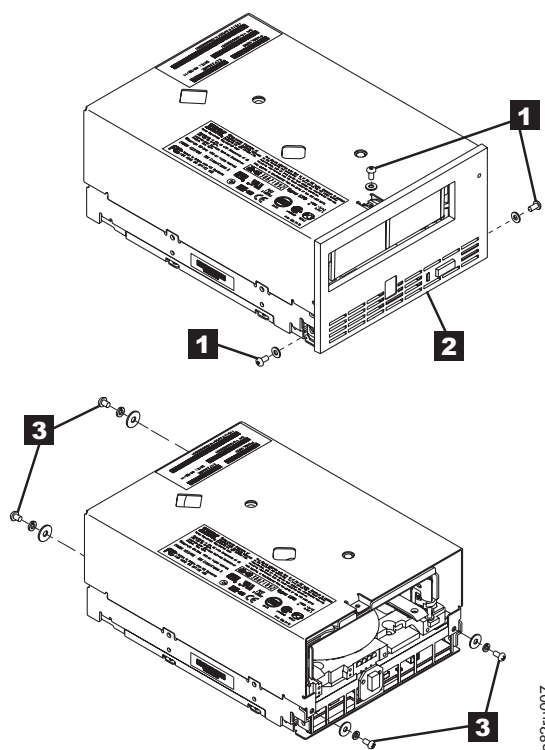

Figure A-5. Removing the bezel and the cover from the 4U internal drive
- a. Using a Phillips screwdriver, remove the three screws and washers (see **1** in Figure A-5) that secure the bezel **2** to the internal drive, then remove the bezel.